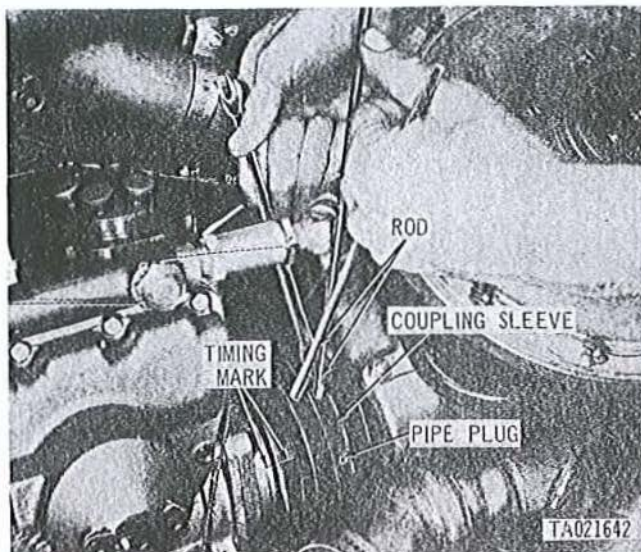

Figure 2-54. Removing fuel injection pump drive gear train backlash.
(9) Position fuel injection pump coupling sleeves making sure timing marks on bearing retaining plate and coupling hub remain aligned. These marks must be aligned before attempting to assemble the coupling. Loosely position four lock plates, lockwashers, and machine bolts (fig. 2-43) in drive shaft coupling sleeves. Position two 5/16-in. steel rods (fig. 2-54), in sleeve alignment holes. Hold fuel injection pump drive coupling sleeve (nearest the pump) stationary and rotate the other drive coupling sleeve counterclockwise to remove backlash from the pump drive shaft. When backlash is removed, and flat sides of drive couplings are aligned, tighten four drive coupling bolts securely. When flat sides of drive coupling sleeves (fig. 2-54) do not mate when backlash is removed, the coupling sleeves must be separated and reset. Separate coupling and push sleeve of drive shaft from hub splines. Adjust sleeve on splines so flat sides of coupling halves are aligned. Torque tighten coupling bolts to 275 to 325 pound-inches. Remove two pipe plugs (fig. 2-54) from couplings.